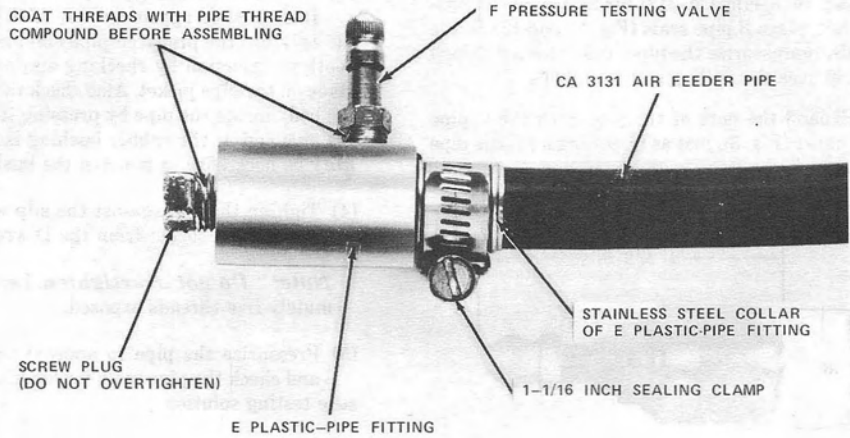

Fig. 9—Typical Arrangement for Pipe Connection at End Manhole
- (9) The **E plastic pipe fitting** is used for making:
- A pipe termination at the end of a pipe route, as shown in Fig. 9. In such cases, also coat the threads of an F pressure testing valve and install it in the port of the fitting.